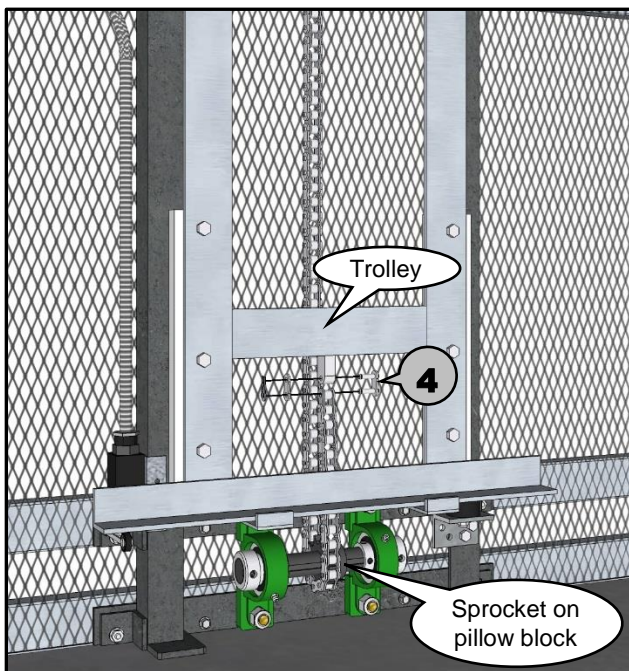

Figure 27
- 4** One end of the chain should hang down behind the trolley and be placed around sprocket on the pillow block. Then use provided master link, attached near the bottom of the trolley with a plastic tie, to connect chain to bottom end of trolley. (see Figure 27)